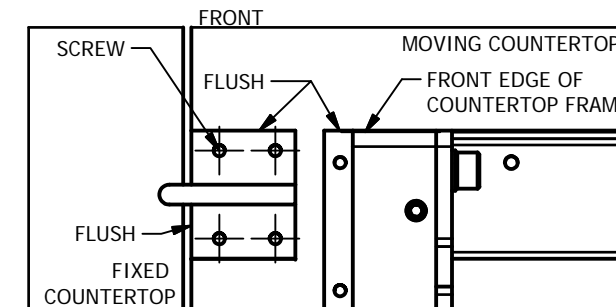

Fig. 9, LEFT UNDERSIDE
-Attach both front pins flush with the front edge of the countertop frame and flush with moving countertop using #8 x 3/4 in SS screws. (Fig. 9)